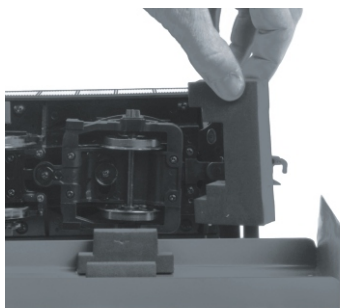

Figure 16
3. Remove the foam blocks shown in Fig 16.